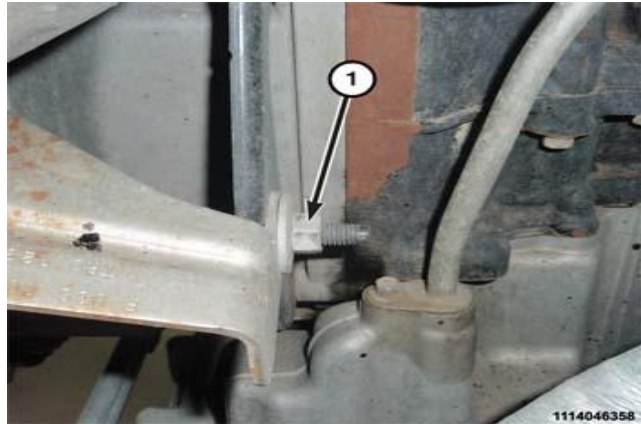

Figure 42 – Front Steady Rest Bracket Nut
88. Remove the front steady bracket retainer nut (1) (Figure 42).
21. Install the front steady bracket nut (1) and tighten to 32 N·m (24 ft. lbs.) (Figure 42).